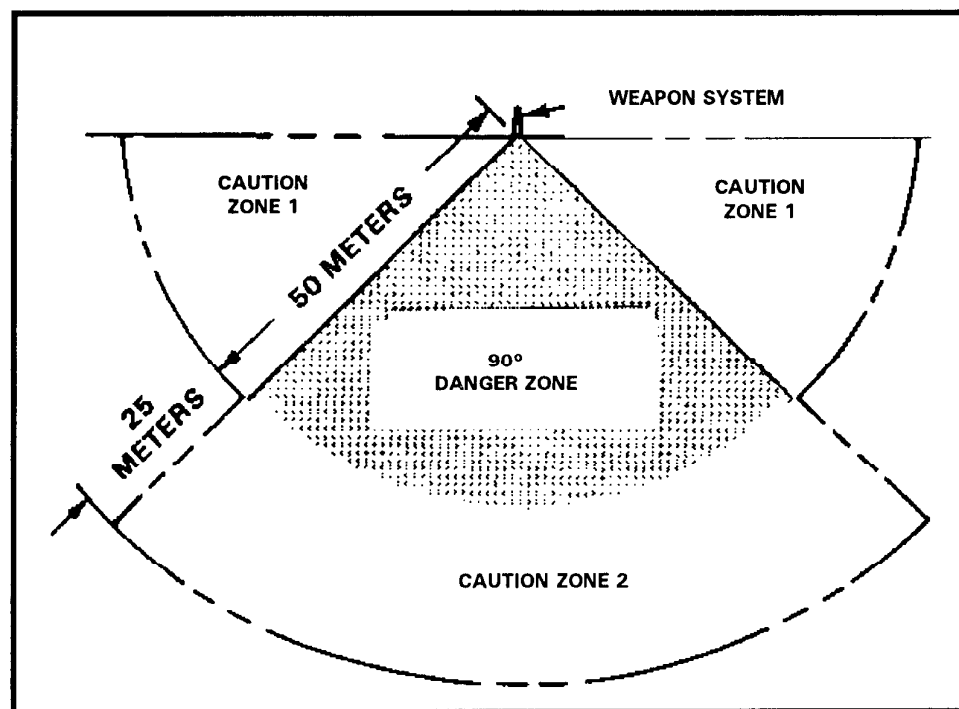

Figure A-4. ATWESS danger zone.
- b. Before pulling the PULL-TO-ARM switch, always check to ensure there are no personnel in the ATWESS danger zone. This zone extends for 75 meters behind the ATWESS firing chamber and covers an arc 90 degrees wide (Figure A-4, page 6).